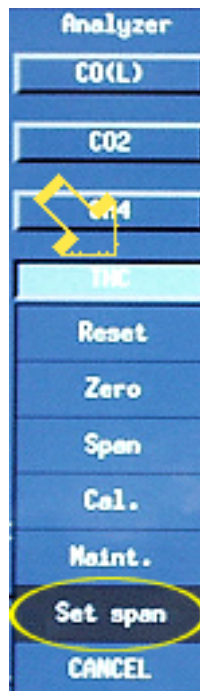

Figure 19
- 124 In the display area, click on the button for the analyzer cylinder changed. See the arrow in Figure 19. Click on “Set span.” See the circle in Figure 19.